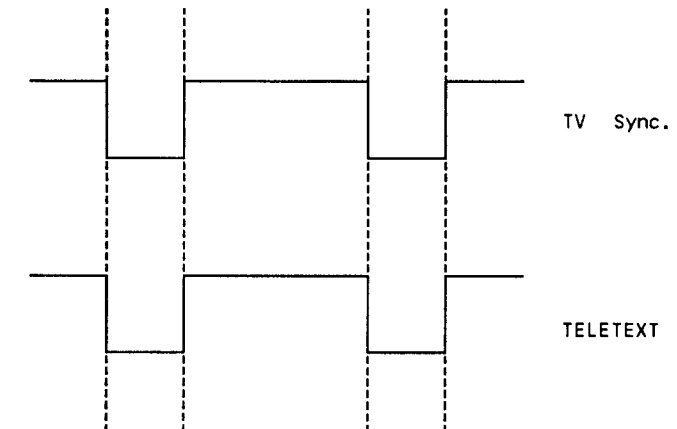

Fig.10
6. Exactly same as teletext sync. as shown in Fig.10.